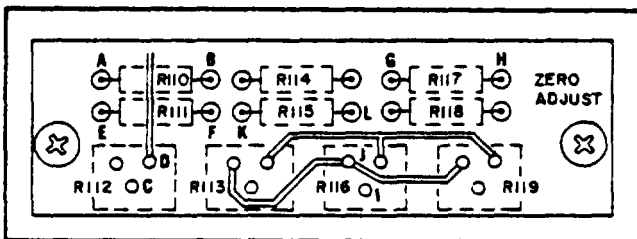

Figure 5-10. "ZERO ADJUST" Section of Main circuit Board
- c. Connect decade resistance box between pads of position marked for resistor R110 in "ZERO ADJUST" section of main circuit board (points "A" and "B" in Figure 5-10; also see Figure 7-10).
- b. Solder jumper between "wiper" pad and "+12.4V" pad of position marked for potentiometer R112 in "ZERO ADJUST" section of main circuit board (points "C" and "D" in Figure 5-10; also see Figure 7-10).
- c. Connect decade resistance box between pads marked for resistor R111 in "ZERO ADJUST" section of main circuit board (points "E" and "F" in Figure 5-10; also see Figure 7-10).
- c. Connect decade resistance box between pads of position marked for resistor R117 in "ZERO ADJUST" section of main circuit board (points "G" and "H" in Figure 5-10; also see Figure 7-10).
- b. Solder jumper between "wiper" pad and "-6.2V" pad of position marked for potentiometer R116 in "ZERO ADJUST" section of main circuit board (points "I" and "J" in Figure 5-10; also see Figure 7-10).